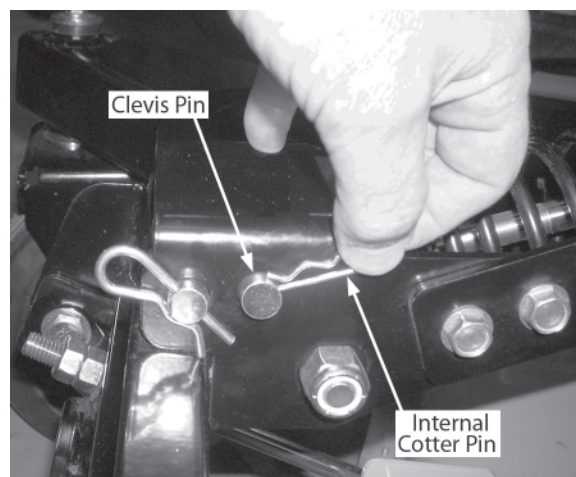

Figure 3-12
- From the front of the deck frame, facing rearward, pivot the shock absorber pivot handle fully rearward. Align the rearward hole on the right front of the pivot handle with the hole in the right mounting bracket. Insert the short clevis pin and secure with the internal cotter pin removed earlier to lock the pivot handle. See Figure 3-12.
- Pivot the shock absorber pivot handle fully rearward and align the rearward hole on the right front of pivot handle with the rear hole of the right mounting bracket. Insert the short clevis pin and secure with the internal cotter pin removed during the removal procedure. Refer to Figure 3-12.